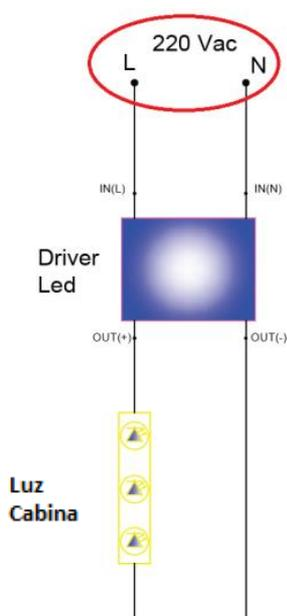

Fig. 1
- I. Identify the power line of the elevator lights (Fig. 1).